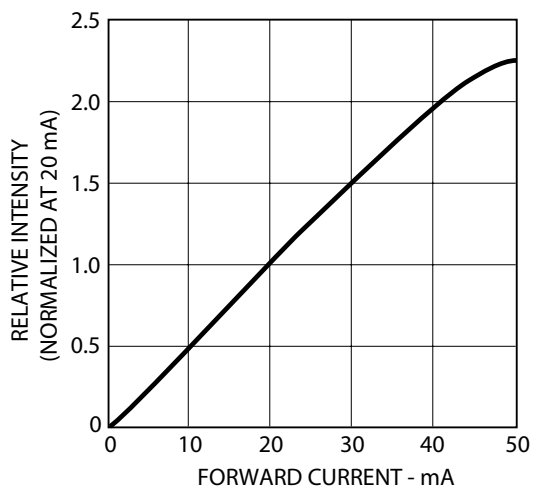

Figure 4. Relative Intensity vs Forward Current
1. Derate linearly as shown in Figure 4 and Figure 8